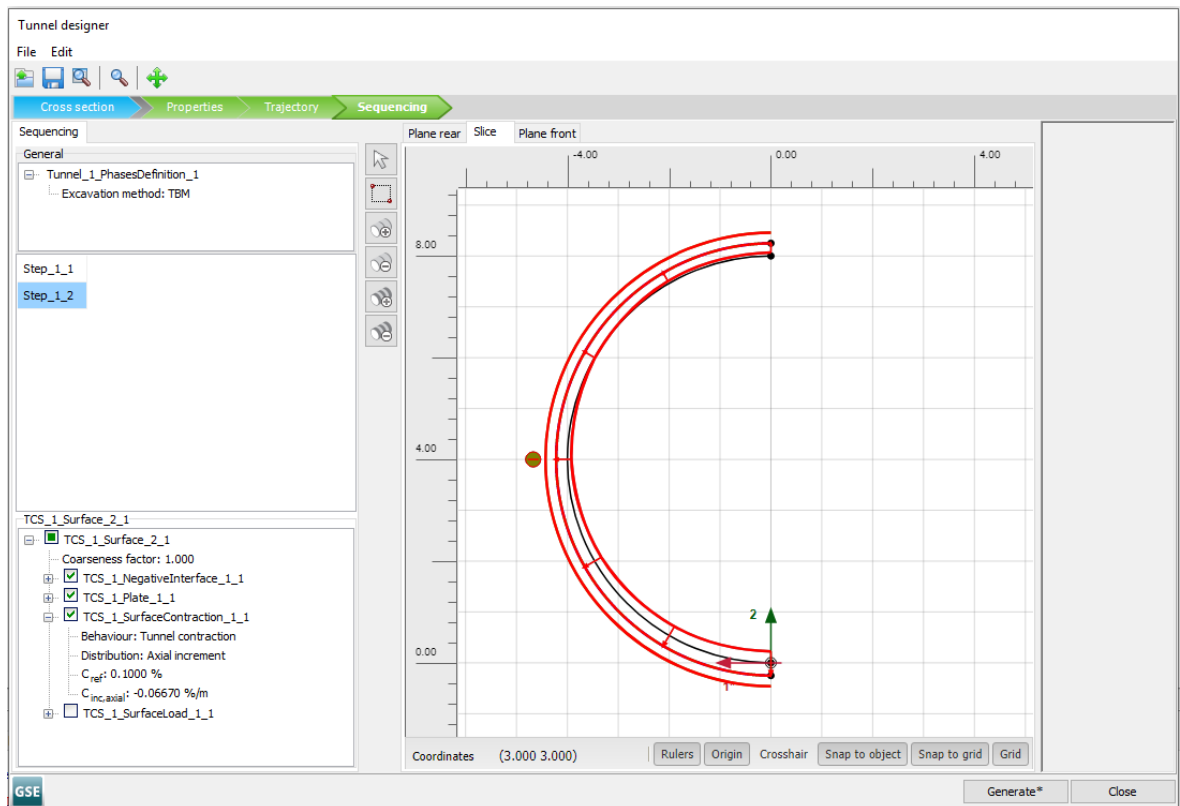

Figure 5-16: Slice tab Tunnel designer - <Step_1_2>Definition of Surface contraction
- Go to the **Slice** tab, select the outer surface and set $C_{ref} = 0.1\%$, see Figure 5-16 \(p. 98\).